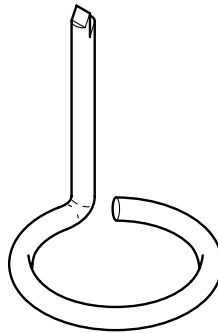

Fig. 3
- 9 Fig. 3 shows a metal bar that has been forged to shape. Explain the term 'to forge'. [3]